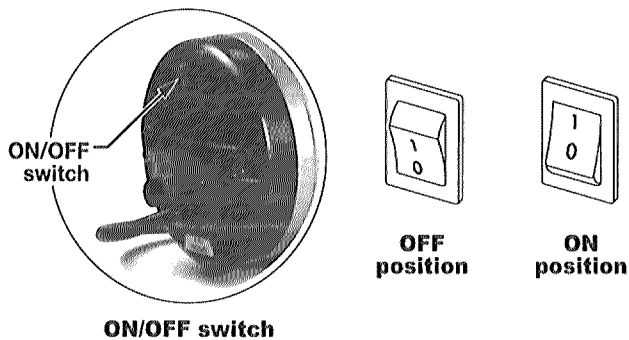

Figure 3
1. Ensure the ON/OFF switch located on the side of the unit is in the OFF position (Figure 3). Plug the aspirator into a properly grounded power outlet.
2. Switch the ON/OFF switch to "I" position (ON) (Figure 3); the unit will start running.
6. Switch the ON/OFF switch to the OFF position to shut off the suction motor (Figure 3).